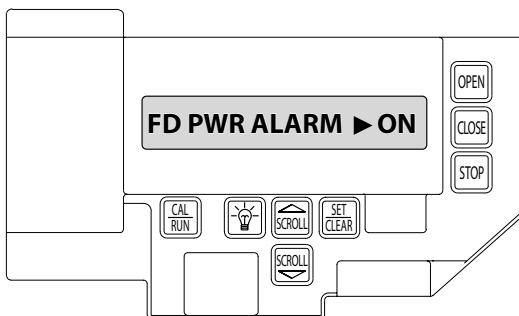

Fig. 16
- 1) Press SET/CLEAR to toggle setting ON or OFF. Fig. 16